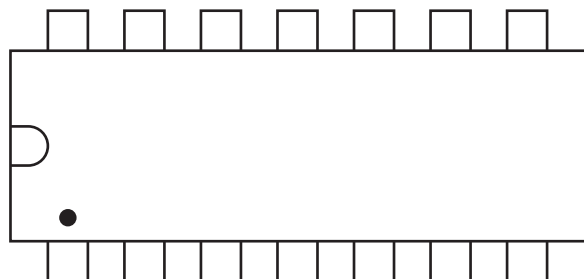

Fig. 11.4
- (iii) Fig. 11.4 shows the outline of a 14 pin IC.